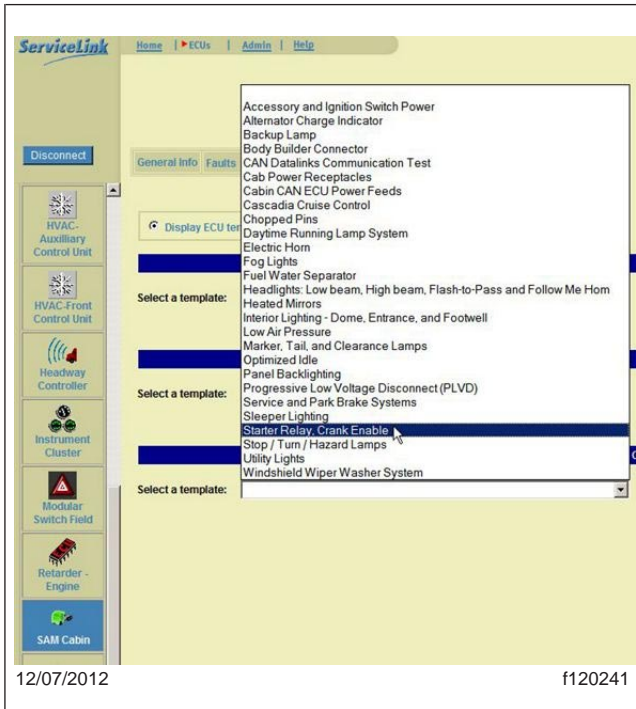

Fig. 1, ServiceLink Template Menu
3. Connect the vehicle to the ServiceLink diagnostic tool. Select the SAM Cab ECU, then go to the "Templates" tab and select "Starter Relay, Crank Enable." See Fig. 1.